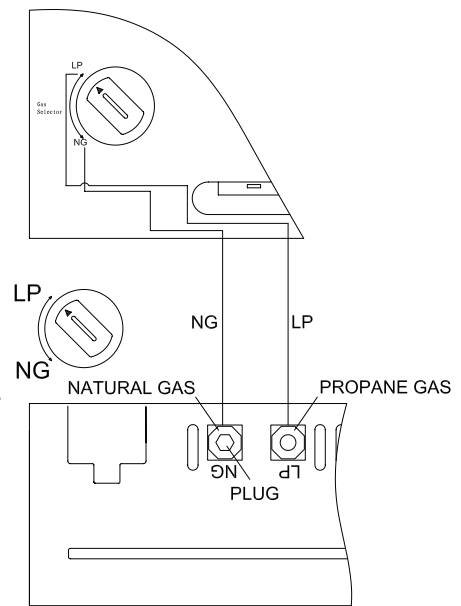

Figure 16
2. For propane gas, press in knob using a flat screwdriver with a blade the thickness of a quarter and turn knob clockwise  until the knob locks into the LP position, see Figure 16. Selection valve must be locked in the LP position. Do not operate heater between locked positions.